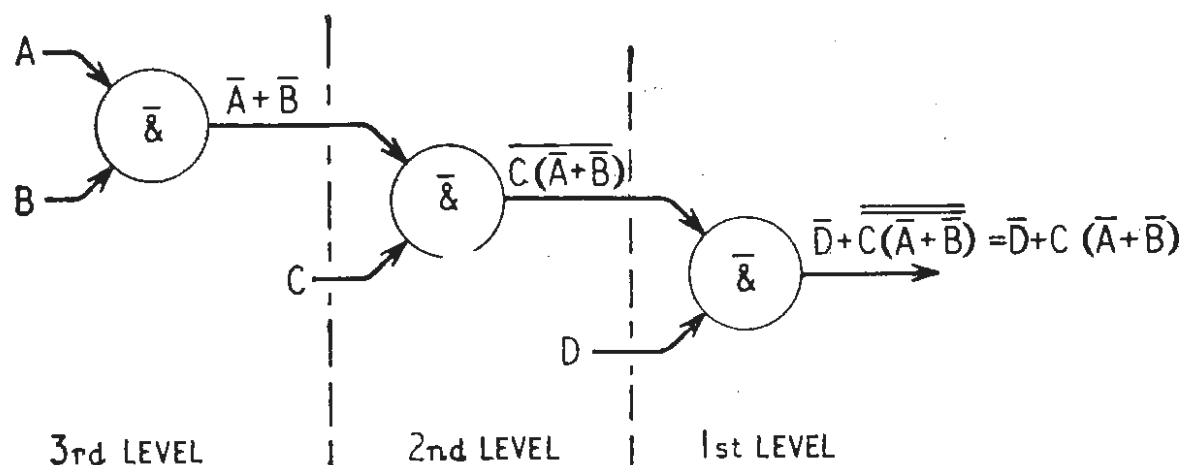

Fig. 10. General NAND circuit, indicating three levels of gating.
Consider Fig. 10, which shows part of a larger circuit involving three levels of gating. Here it is seen that terms entering at odd levels (1 and 3) appear complemented at the output, whereas variables entering at the even level (2) are unchanged at the output. It is left to the reader to establish the same rule for NOR elements.